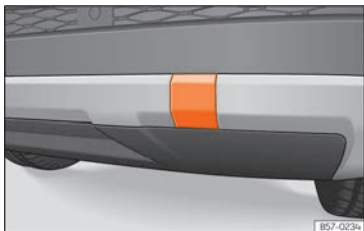

Fig. 49 On the right side of the rear bumper: remove the cover.
The housing of the screw towing eye is on the right side of the rear bumper behind a lid »» Fig. 49.
- Press the upper side of the lid »» Fig. 49 to unclip it.